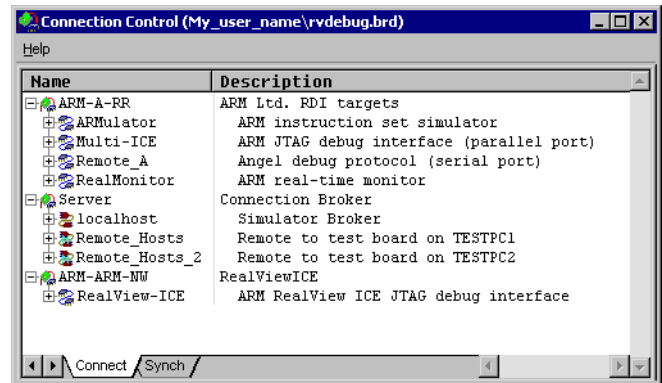

Figure 6-10 Multiple remote targets in the Connection Control window
Each entry in the hosts file appears as an available connection in the Connection Control window, shown in Figure 6-10 on page 6-15.
3. RealView Debugger locates the rvbroker.brd file in your home directory, or in \etc, and includes the configuration details in the Connection Control window, ready for making a connection, shown in Figure 6-10.